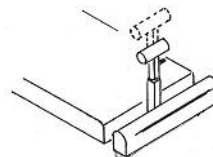

Fig. 1
- 1) Simply pivot the handle up until it locks into place. (Fig. 1)